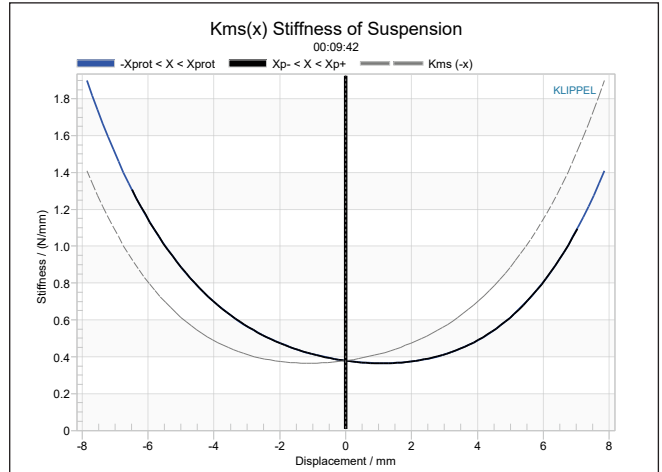
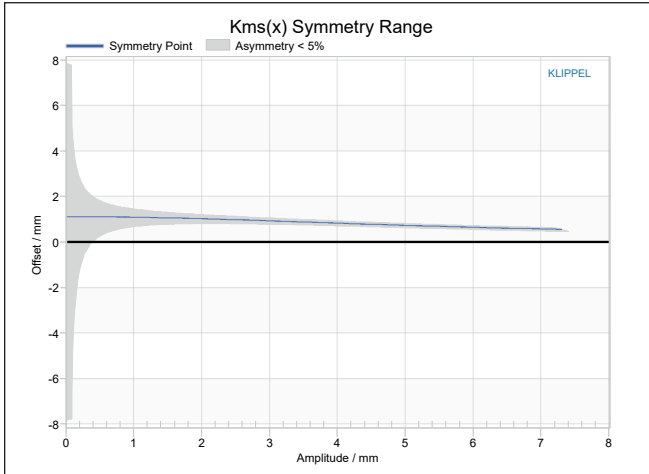

Figure 8: Klippel analyzer mechanical stiffness of suspension Kms(X) curve for the Scan-Speak 15W/8534T00.
Figure 9: Klippel analyzer Kms symmetry range curve for the Scan-Speak 15W/8534T00.
Figure 8 and Figure 9 give the Kms(X) and Kms symmetry range curves for the 5.5" midbass transducer. The Kms(X) curve (Figure 8) is fairly symmetrical, and with a relatively small amount of coil-out (forward) offset. Looking at the Kms symmetry range curve (Figure 9), there is 1.1mm coil-out offset at the 1mm point (high certainty) and decreases to 0.73mm at the physical Xmax of the driver. Displacement